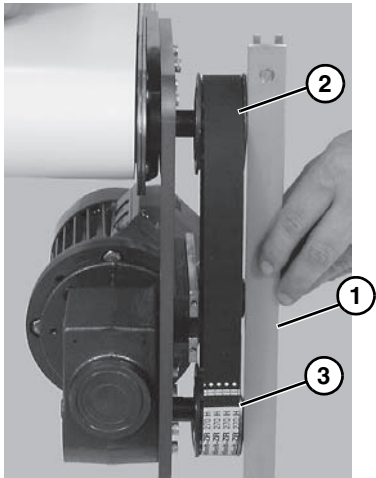

Figure 9
- Using a straight edge (**Figure 9, item 1**), align driven pulley (**Figure 9, item 1**) with drive pulley (**Figure 9, item 1**).